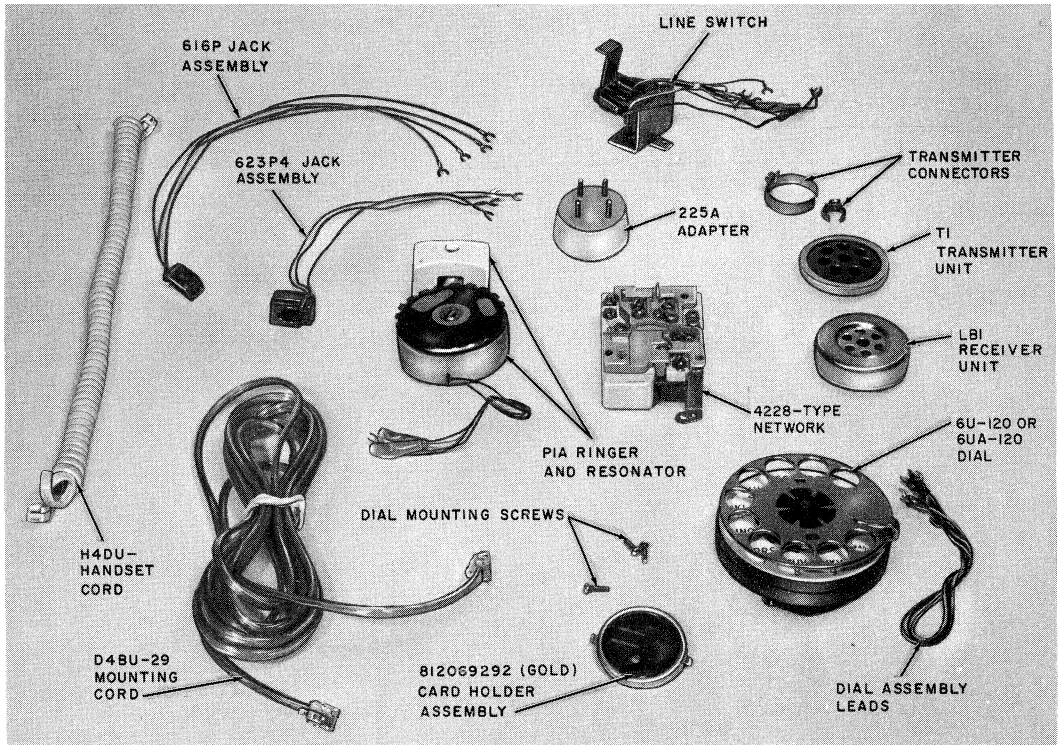

Fig. 3—Telephone Company-Owned Components
- (1) 882AS200 housing
- (2) 880DT-58 telephone unit
**Note:** This includes all the components shown in Fig. 3.
**Note:** Remove the telephone company-owned components that can be easily removed. Refer to Fig. 3 for identification of company-owned components.